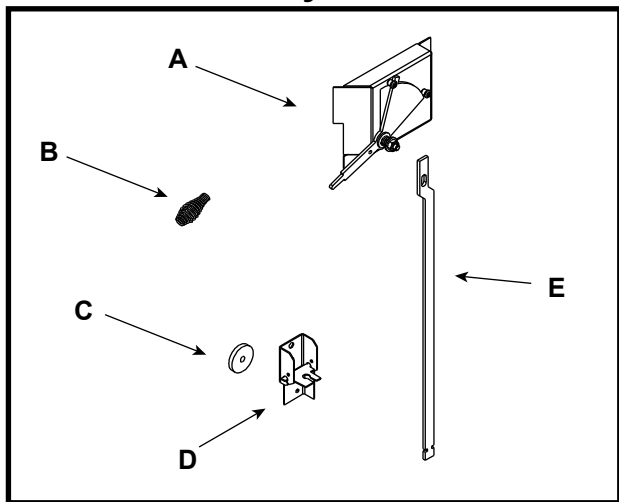

**Figure 41.1**
1. Align holes in mounting flange of blower with bolt holes in appliance. Blower should be positioned at bottom of rear outer skin as shown in **Figure 41.1**.
- 3 Place the bracket containing the snap disc and magnet under the bottom left rear corner as shown in **Figure 41.1**.